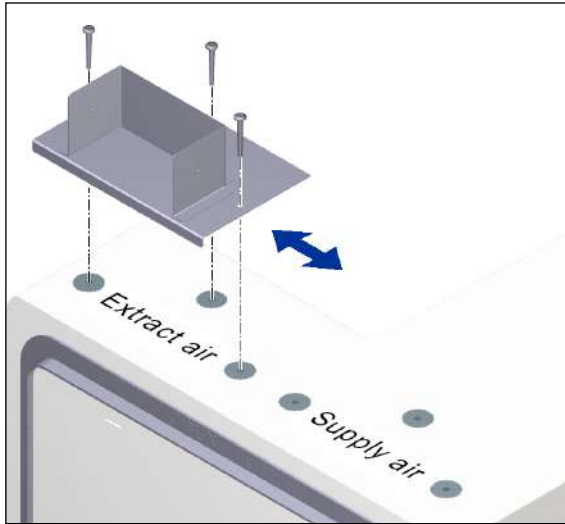
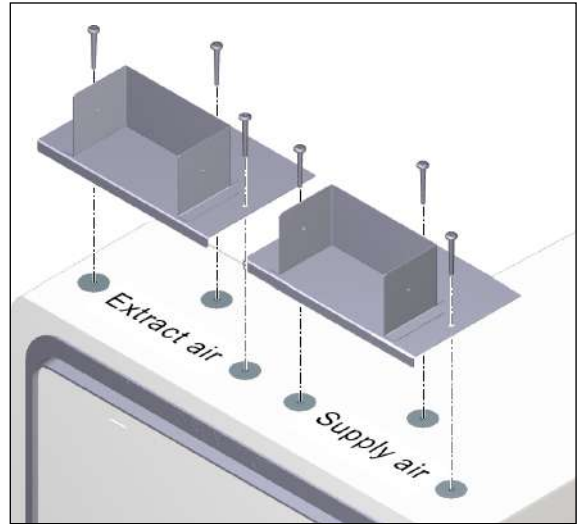

Fig. 8: M-WRG-M/MB-FR75/1, fixing the fixing plate for extract air **or** supply air
Fig. 9: M-WRG-M/MB-FR75/2, fixing the fixing plates for extract air **and** supply air
► Use the Spax screws to fix the fixing plate (see Fig. 8 and Fig. 9).